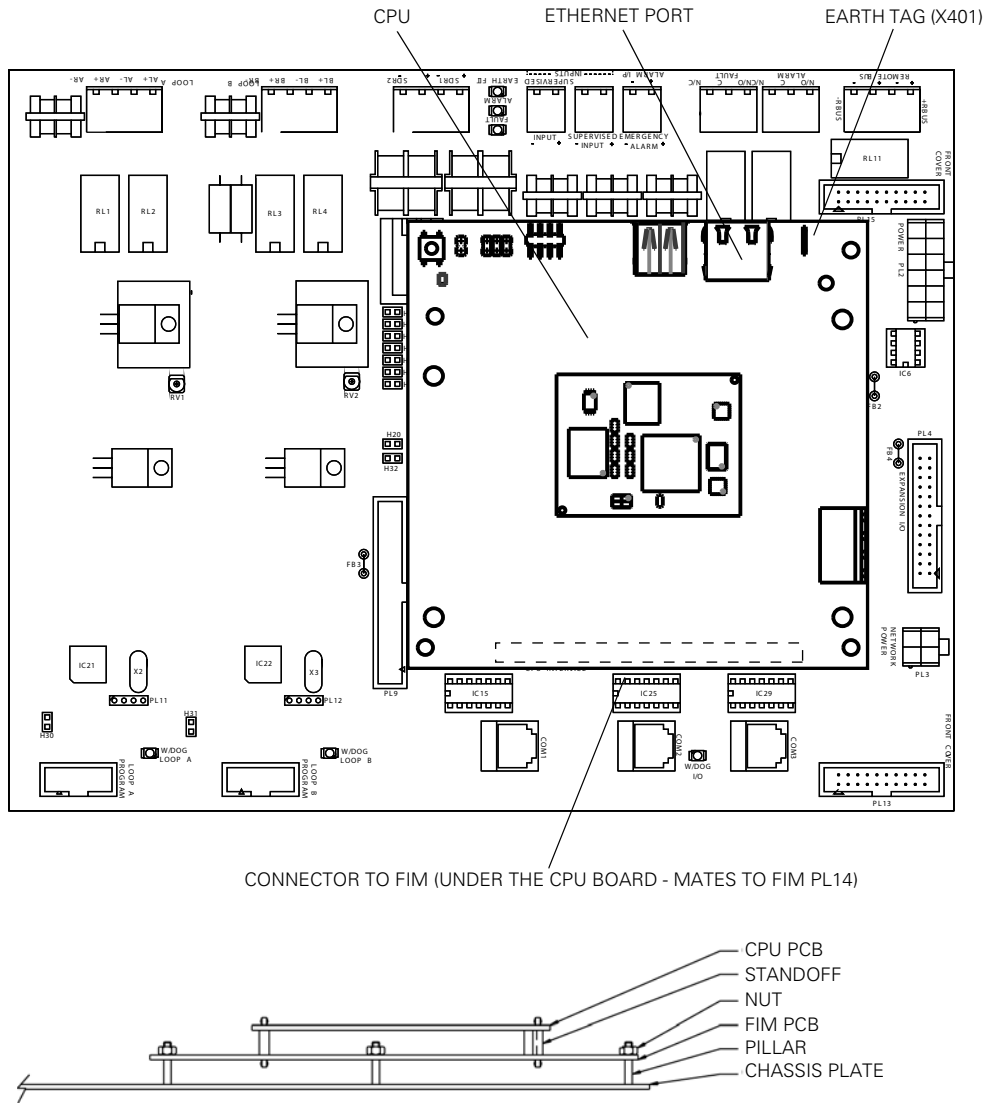
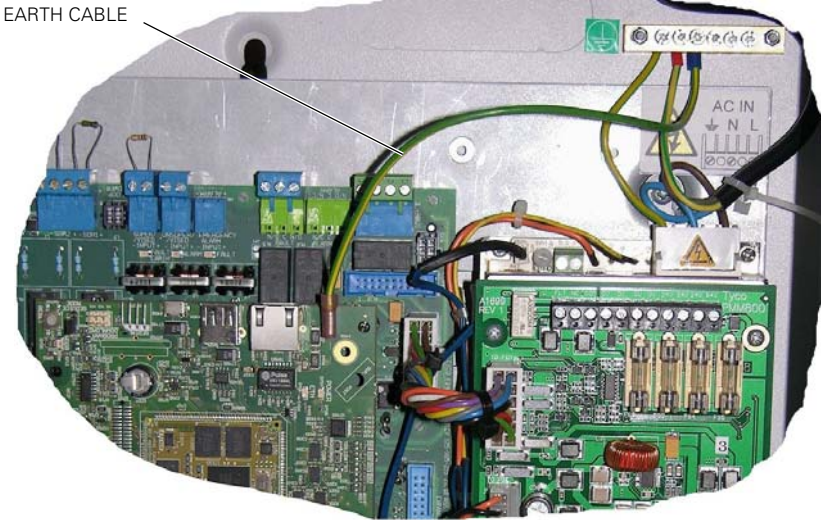

Fig. 2: CPU801 Mounting to FIM
Fig. 3: Earth Cable Fitted - Fireclass Panels FC 32/64/240
- 4 Locate the existing CPU, mounted on the FIM (see Fig. 2). The board is held in place by
being fixed to the standoffs, and by its connector with the FIM (see Fig. 2).
- 5 For a CPU801 disconnect any cables to the CPU (such as the Ethernet or earth cable, see Fig. 2).
To do this, on the CPU board, attach the cable to the tag marked "X401" (see Fig. 2). Attach the other end to the chassis earth (see Fig. 3).